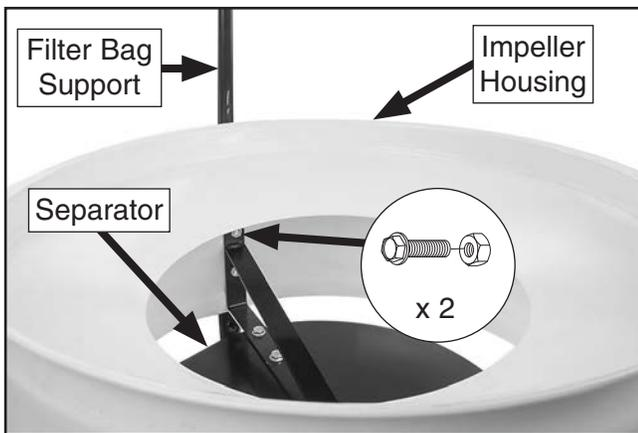

Figure 13. Fully assembled impeller housing.
- Attach separator and filter bag support assemblies to impeller housing using (2) $\frac{5}{16}$ "-18 x $\frac{3}{4}$ " flange bolts and (2) $\frac{5}{16}$ "-18 hex nuts (see **Figure 13**).